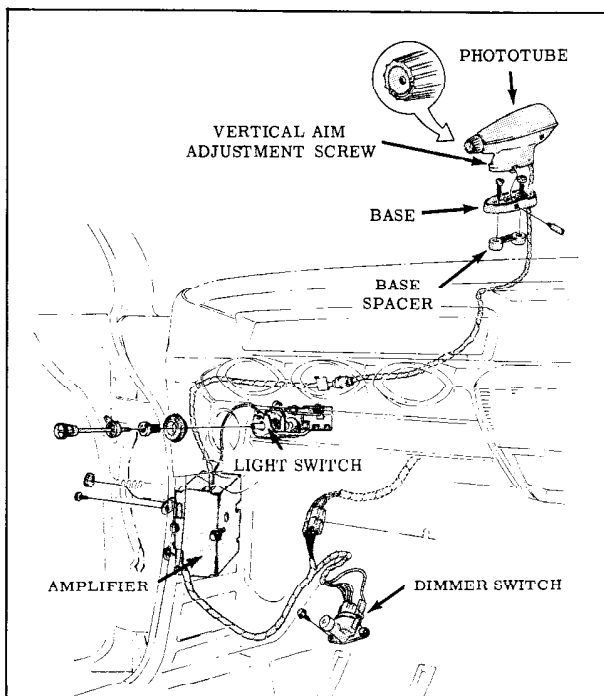

Fig. 13-96 Guide-Matic Layout
The Guide-Matic Power Headlight Control consists of: the phototube, amplifier unit, and a combination override and foot dimmer switch. (Fig. 13-96)
1. Remove the left cowl trim pad and disconnect the phototube unit harness plug from the amplifier. (Fig. 13-96)
1. Disconnect the light blue wire connector from the "Guide-Matic" "OFF-ON" switch terminal on the headlight switch. (Fig. 13-96)